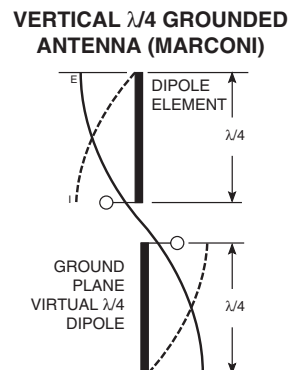

Figure 34: Dipole Antenna
Reflow Oven: +225°C max (see Figure 34)
4. In many antenna designs, particularly $1/4$ -wave whips, the ground plane acts as a counterpoise, forming, in essence, a $1/2$ -wave dipole (Figure 34). For this reason, adequate ground plane area is essential. The ground plane can be a metal case or ground-fill areas on a circuit board. Ideally, it should have a surface area less than or equal to the overall length of the $1/4$ -wave radiating element. This is often not practical due to size and configuration constraints. In these instances, a designer must make the best use of the area available to create as